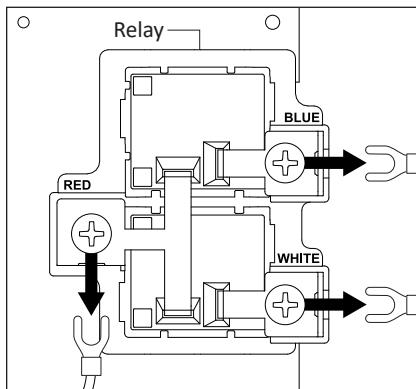

Figure 35 - Disconnect Relay Wires
- Use a Phillips screwdriver to loosen the three (3) screws securing the **RED**, **BLUE** and **WHITE** wires to relay. Slide wires out from relay terminals.
- IMPORTANT!** Note orientation of wires as show below in Figure 35. Failure to reconnect wires properly may trigger a dry-fire fault even if the tank is full of water. In the event this occurs, the control assembly will display error code **001**.
- Use a Phillips screwdriver to remove the four (4) screws securing the board to the bracket. Carefully remove any washers or spacers seated between the board and bracket. Discard old hardware and use only new hardware provided in kit to install replacement board to bracket.
- 10** Using the spacers and screws provided in the kit, gently thread screws through the four (4) corner holes in replacement board. Slide spacers onto screw threads from backside of board.
**IMPORTANT!** Confirm wires are properly connected to terminals on relay as shown in Figure 35.
- 13** Locate the control assembly previously set aside. Reconnect the six (6) pin connections removed in **Step 5**.